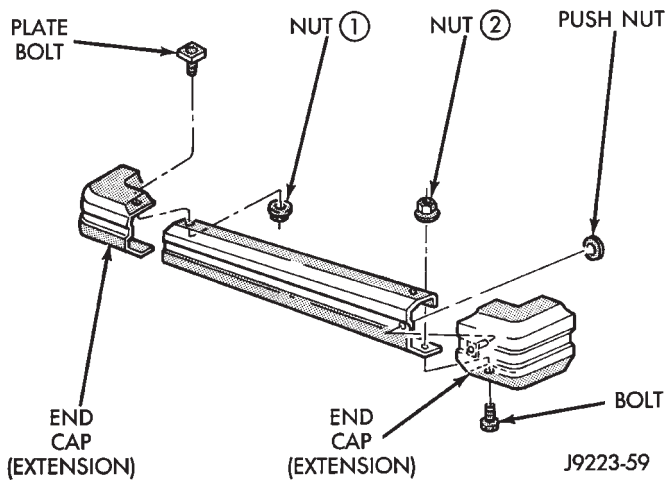
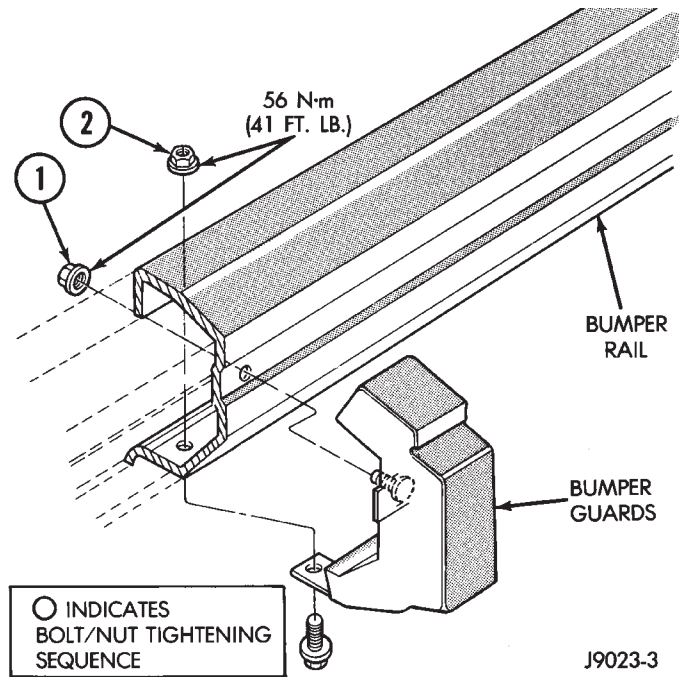

Fig. 14 Bumper End Cap Removal/Installation—XJ Vehicles
Fig. 15 Bumper Guard Removal/Installation—XJ Vehicles
(7) Remove the bumper end caps (Fig. 14) and bumper guards from the bumper (Fig. 15), if necessary.
(1) As applicable, install the splash shield and bumper support brackets, the bumper end caps and the bumper guards.
(2) Tighten the bumper support bolts to 56 N·m (41 ft-lbs).
(3) Tighten the nuts in the sequence depicted in Figure 14. Tighten the bumper end cap plate bolt nuts to 22 N·m (16 ft-lbs) torque. Tighten the lower bolt nuts to 8 N·m (6 ft-lbs) torque.
(4) If applicable, tighten the bumper guard bolts/nuts to 56 N·m (41 ft-lbs).
(5) Position and support the bumper with the bracket holes aligned with the sill crossmember